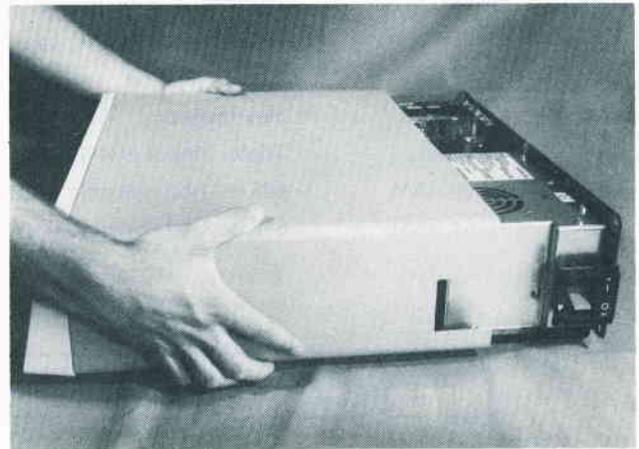

Fig. A-3. Gently slide the system unit cover forward.
6. Place your hands on either side of the cover and slide the cover off the main unit, pulling toward you as shown in Fig. A-3.